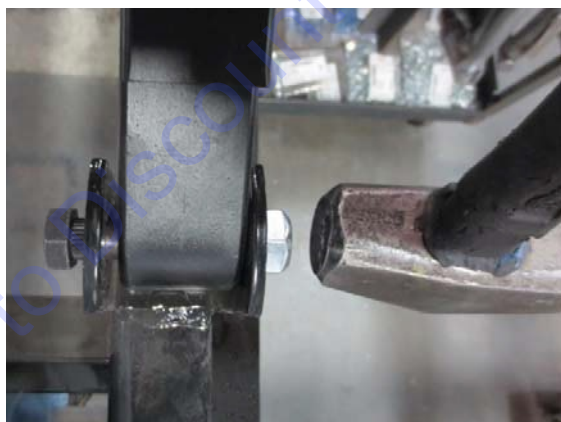

Figure 7. Removal Of Axle Screws
10. Loosen the **axle mounting screws** (P/N 29248); it may be necessary to gently tap the screw (Figure 7) to advance the splines of the screw.